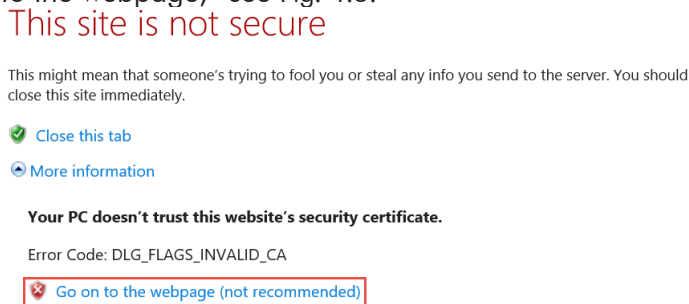

Fig. 4.3
2. Click on "Go on to the webpage," see Fig. 4.3.